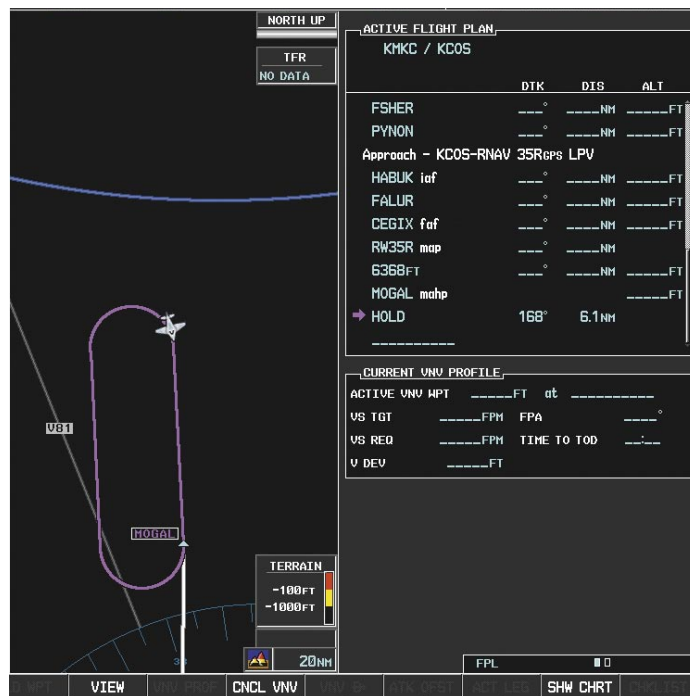

Figure 5-132 Hold Established
- 27) The aircraft maintains 10,000 feet while following the magenta line through the hold as in Figure 5-132.
- 8) With 'ACTIVATE PARALLEL TRACK' highlighted, press the **ENT** Key (Figure 5-132).